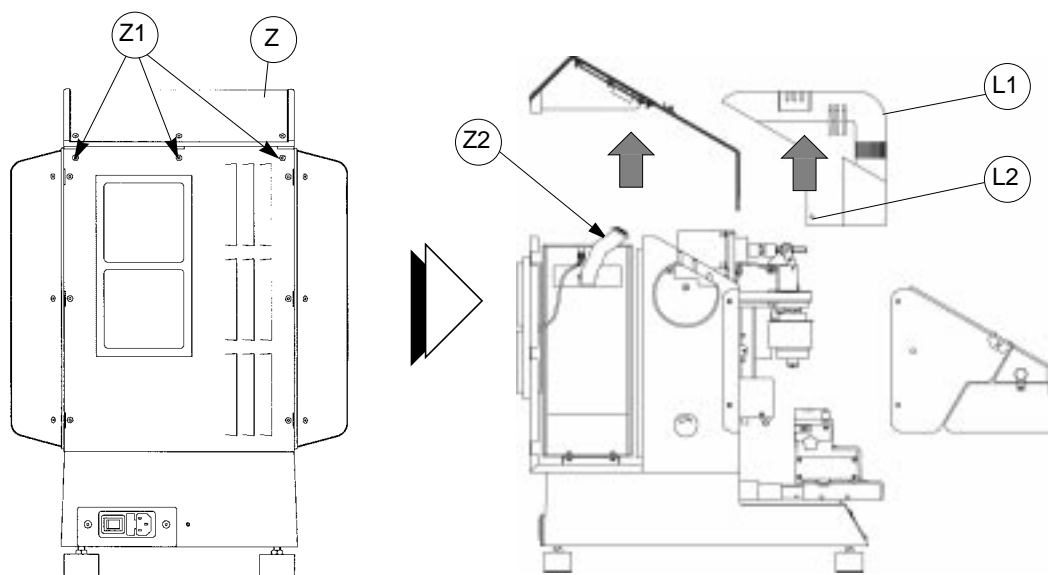
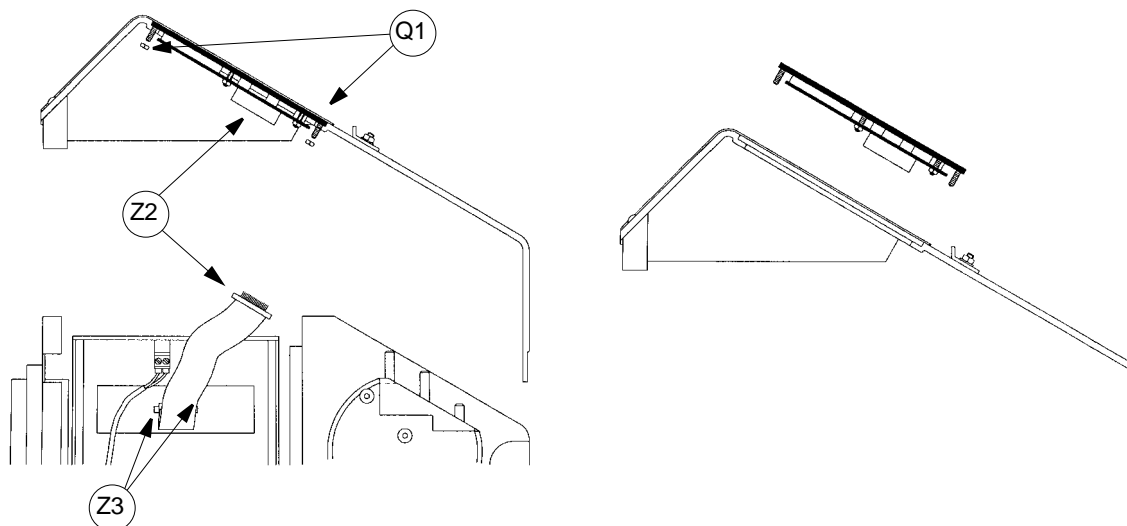

Fig. 42
Fig. 43
- 2) Remove the belt cover (L1) by unscrewing the two side screws (L2) and raising it (fig. 42).
- 3) Remove the seven screws (Z1) and detach the upper panel (Z), complete with the keypad.
- 5) Remove the four nuts (Q1) and detach the keypad/display unit (fig. 43).
- 11) remove the seven screws (Z1) and detach the upper panel (Z), complete with the keypad (fig. 42, page 46).